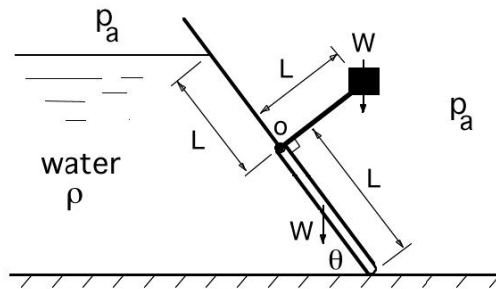

Figure P2.52
2.52 A gate of length L and width w is hinged without friction at the point O, as shown in Figure P2.52. The gate is of uniform thickness and it has a weight of W . There is another